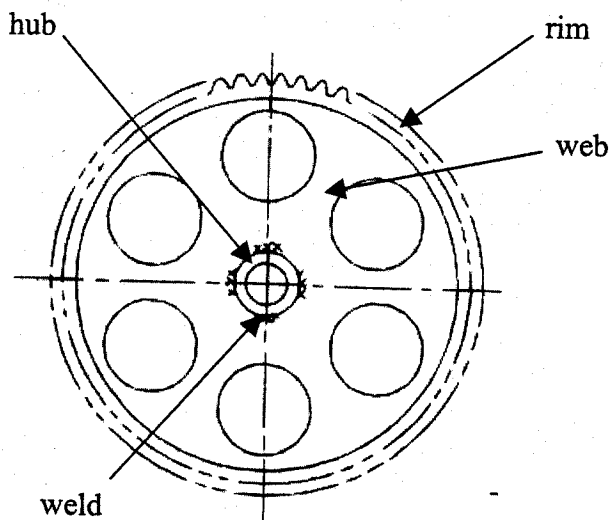
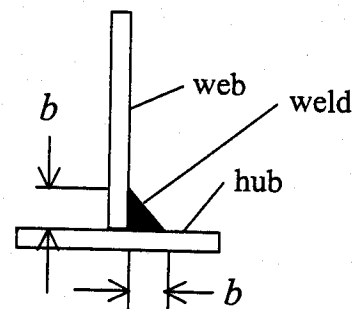

Figure 5a
Figure 5b
5. A large gear is fabricated by welding together three parts, a steel ring for a rim, a hollow cylindrical hub and a plate or web between them, as shown in Figure 5a. To form the gear, teeth are cut into the rim. When transmitting torque, the maximum tooth load is estimated at 5000 N. The weld joining the web to the hub is to be composed of four equal lengths of fillet weld, as shown in Figure 5a, with cross sectional dimension  $b = 1$  cm, as shown in Figure 5b. The rim diameter (gear tooth pitch diameter) is 1.2 m and the outer hub diameter is 15 cm.
- i) Determine the web-hub fillet weld lengths, based on a maximum allowable shear stress of 40 MPa. (10)
- ii) Consider a shaft in the hub that is subjected to a transverse load causing a bending action at the hub. When the gear is not transmitting torque, estimate the maximum bending moment that can be applied to the hub before the weld will fail. You may assume a maximum allowable normal stress of 80 MPa. In making your estimate, you may ignore the curvature of the circumference of the hub and idealise the weld lengths, determined in (i) above, as being straight. (10)